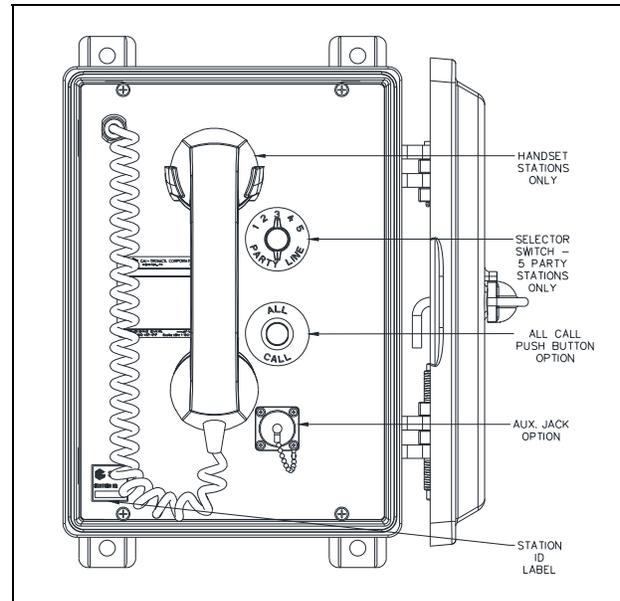
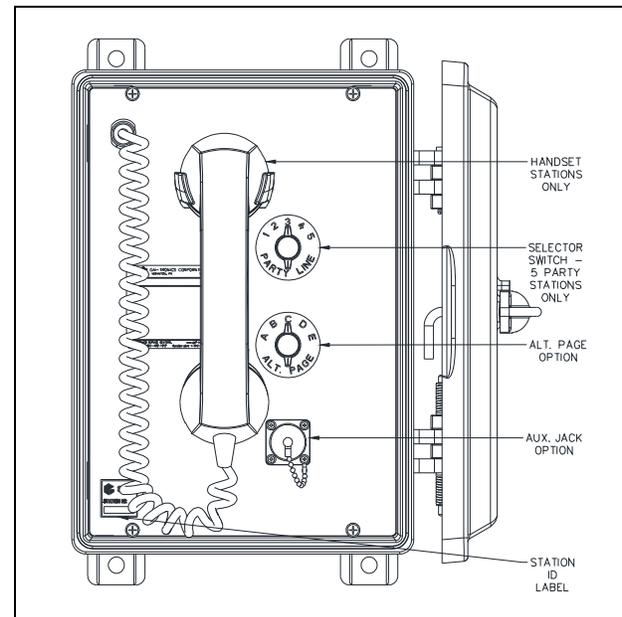

Figure 13. All-Call Button Option
Figure 14. Alternate-Page Switch Option
Use the ALL-CALL option button to page an alternate destination that has been programmed for the station (see Figure 13). The All-Call option must be software configured for the SP2 station. To initiate a page using the ALL-CALL feature:
Use the ALT-PAGE selector switch to page one of five alternate destinations for the station (see Figure 14). Alternate page destinations must be software configured for SP2 stations. To initiate a page using the ALT-PAGE selector switch:
1. Attach the headset assembly to the auxiliary jack on the station (see Figure 13 or Figure 14).